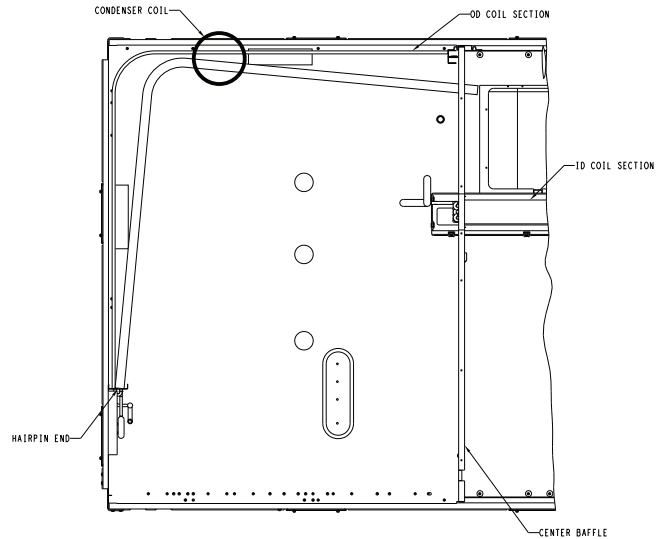

Fig. 20 — Separating Coil Sections (Top View)
8. Insert a spacer (field-supplied) between the tube sheets to hold the coils apart. (See Fig. 20.)